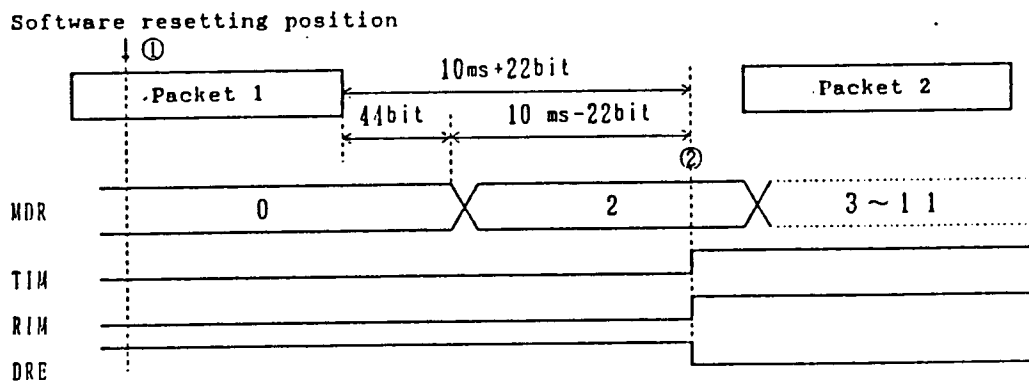

Figure 4.13 Sending/receiving interrupt mask flag operation upon resetting
Figure 4.13 shows operations of the sending and receiving interrupt mask flags upon software resetting. Software resetting is performed at Figure 4.13 ①. In this case, the packet end is searched while the state counter is "0" when data is provided, then the synchronization recovery period ends at the point 10 ms + 22 bits later (Figure 4.13 ②) and interrupt is applied thereafter.